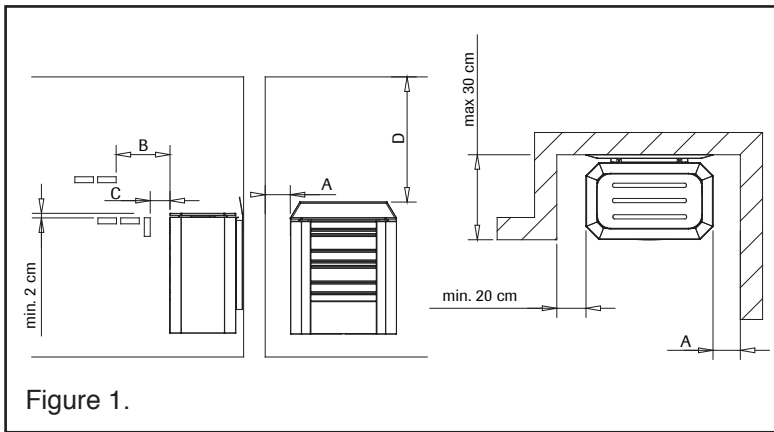

Figure 1.
**) See Figure 1
- The AITO sauna heaters of 4.5 kW or 6.0 kW can also be installed in a wall recess, provided that the safe distances given by Figure 1 are observed.